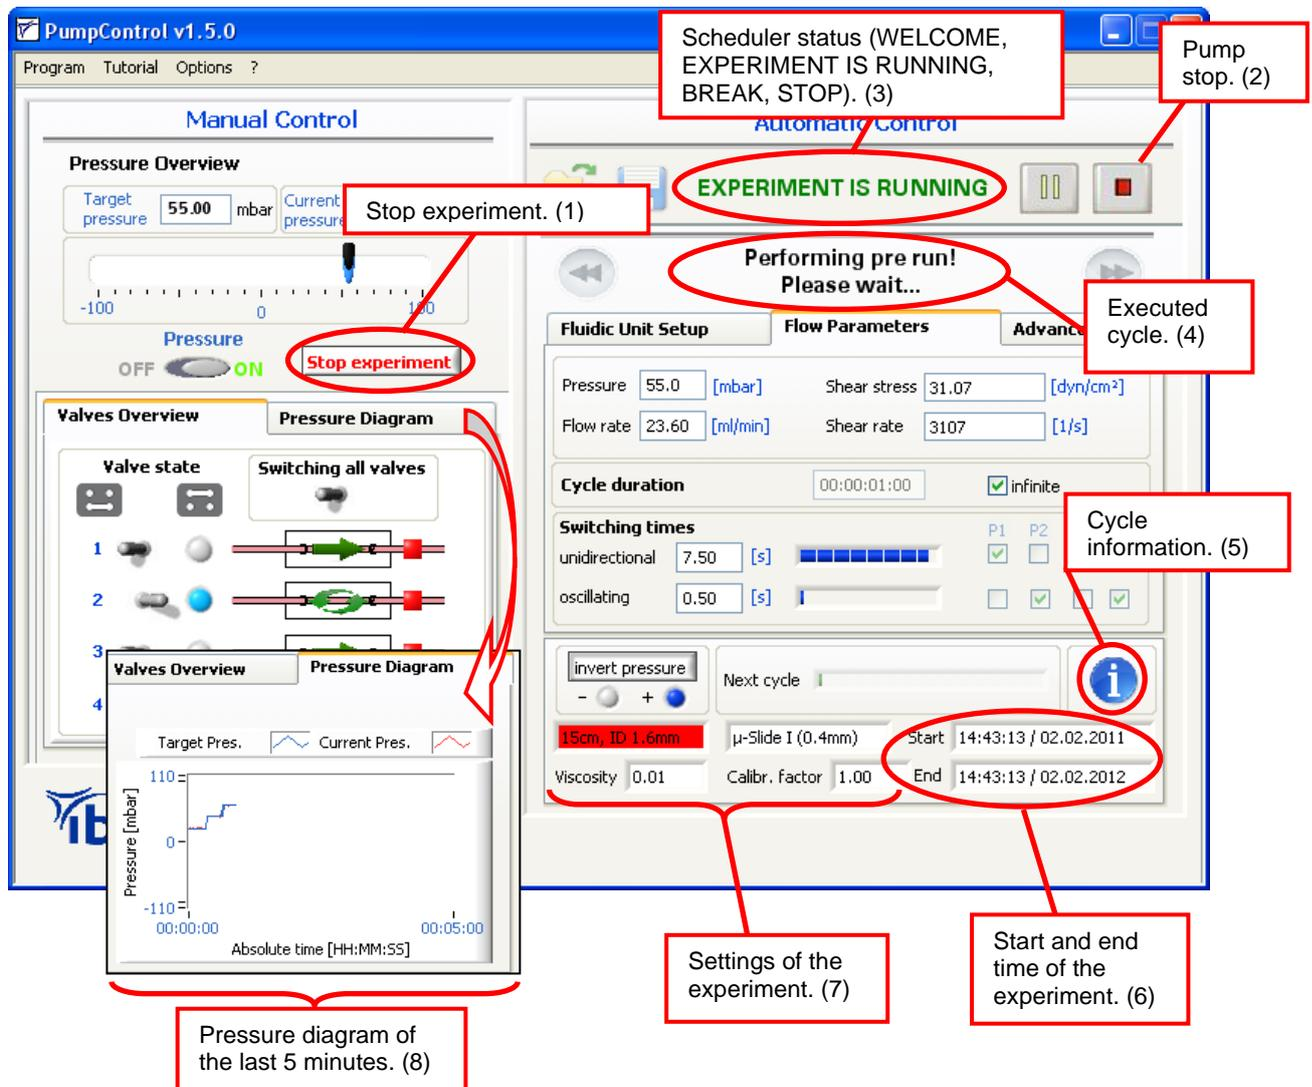

Figure 29: Pump Control During the Course of the Experiment
While the Scheduler is running, the functions are limited in the ibidi Pump. Most importantly, you can still stop the pump immediately by clicking on the 'Stop' button (controls 1 and 2 in Figure 29). You can also find several indicators (3) to (8) that display the current status of the experiment, as seen in the figure below.
The 'Info' button (control 5, in Figure 29) can be opened at any time to view a summary of the Scheduler's current status. This might be useful during longer experiments, to see which cycle and cycle parameters are being executed.